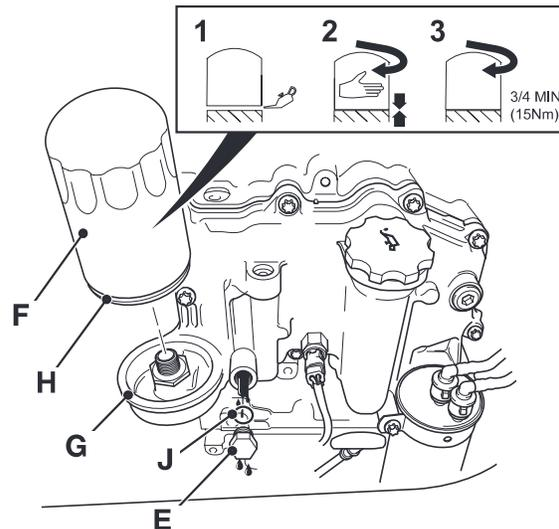

Fig 277.
- 4 Place a container of suitable size under drain plug **E** to catch the oil. → Fig 277. (□ 279).